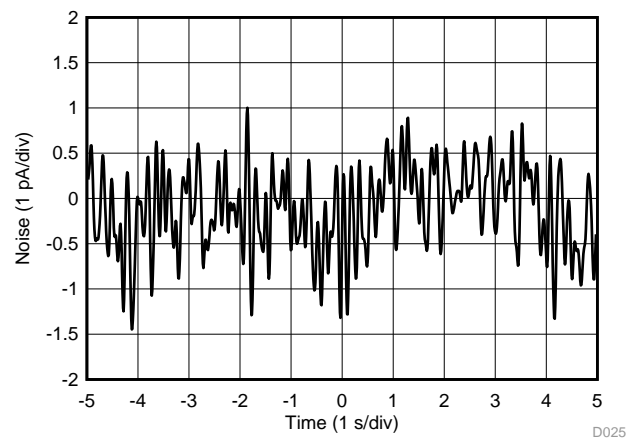

Figure 26. 0.1-Hz to 10-Hz RTI Current Noise
0.1-Hz to 10-Hz RTI Current Noise	Figure 26